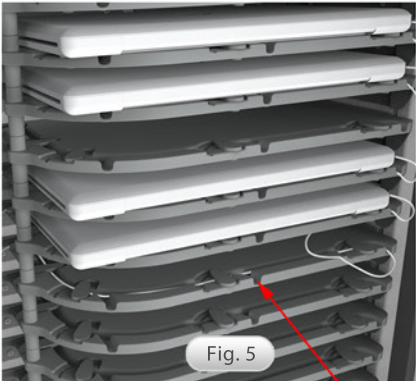

Fig. 5
3. Move around to the front of the trolley and take the device cable and feed this through the cable valley. Lock the cable into valley by turning the cable clips over the top of the device cable when it has been located in your required position. (See Fig. 5)